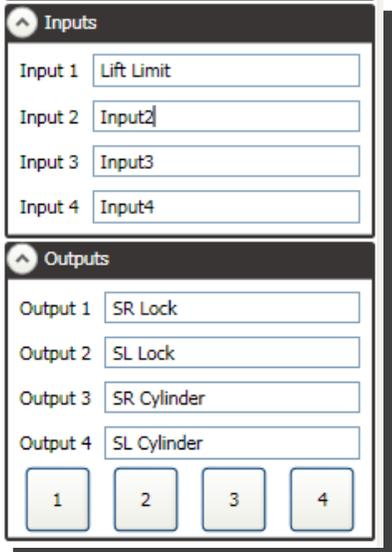

Figure 181
2. In the **Inputs** section of the FX Editing Pane, enter the new **Input** name(s) and in the **Outputs** section of the FX Editing Pane, enter the new **Output** name(s) (Figure 181).